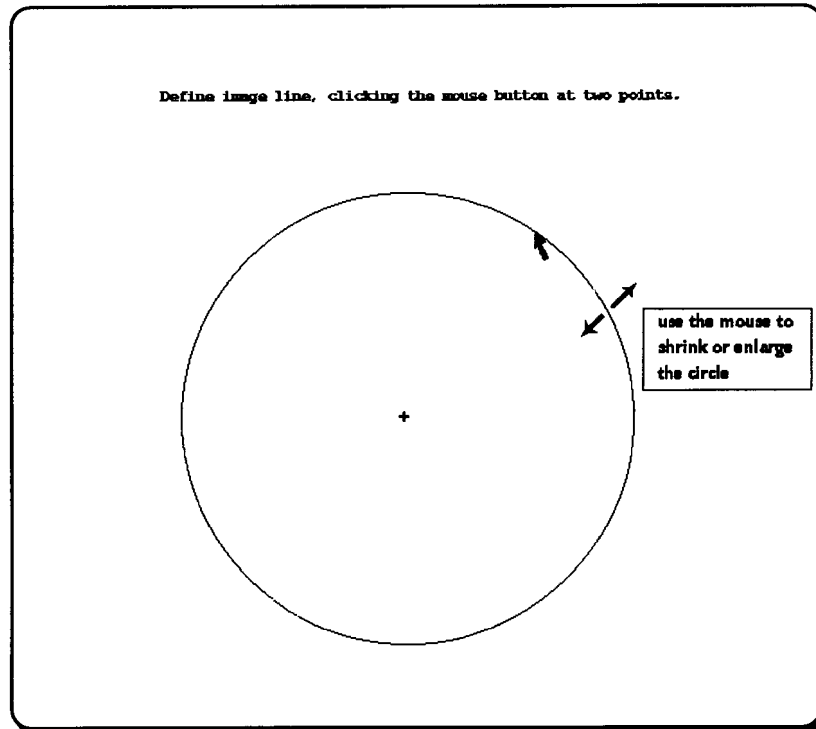

Figure 15 Defining rain circle with mouse control.
- Use the mouse to open the circle so that it covers the image domain and the "real" linesinks to the left of the line, as shown in **Figure 15**.